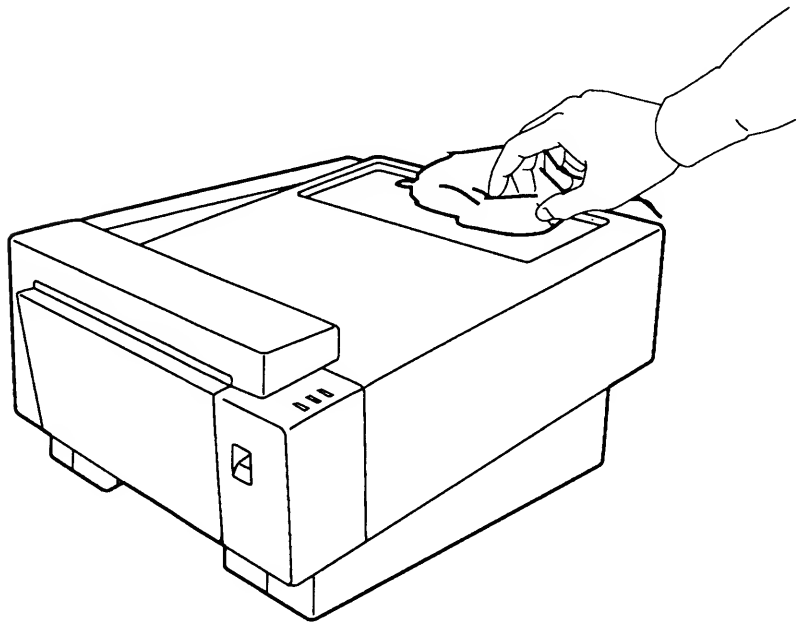

Figure 5-3 Cleaning Outside the Printer
2. Clean the exterior of the printer with a clean, damp cloth (**Figure 5-3**). Use a mild soap or detergent if necessary.